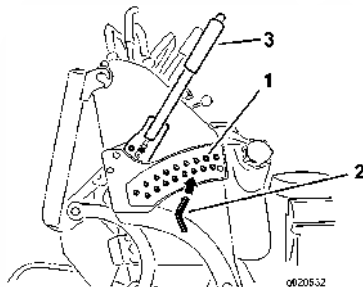

Figure 21
3. Select a hole in the height-of-cut bracket corresponding to the height-of-cut desired and insert the pin (Figure 21).
4. Push the button on top and lower the height-of-cut lever to the pin (Figure 21).